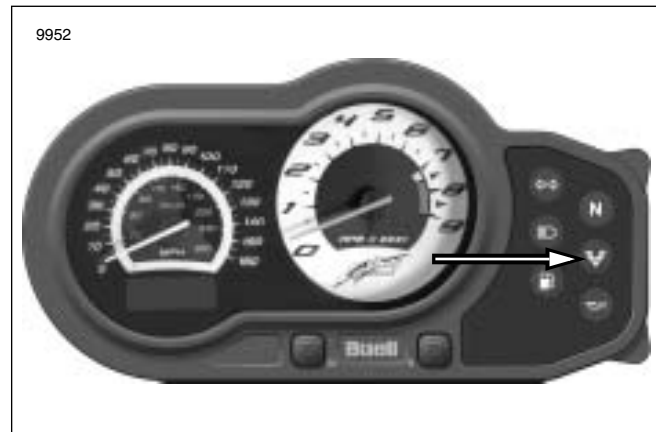

Figure 4-15. Check Engine Lamp
See Figure 4-15. If the engine stop switch is set to RUN with the engine off, and the ignition key switch is turned ON, the check engine lamp should illuminate for four seconds.
1. See Figure 4-15. If the lamp goes off when the black ECM connector [10] is unplugged, the BK/Y wire is **not** shorted to ground.